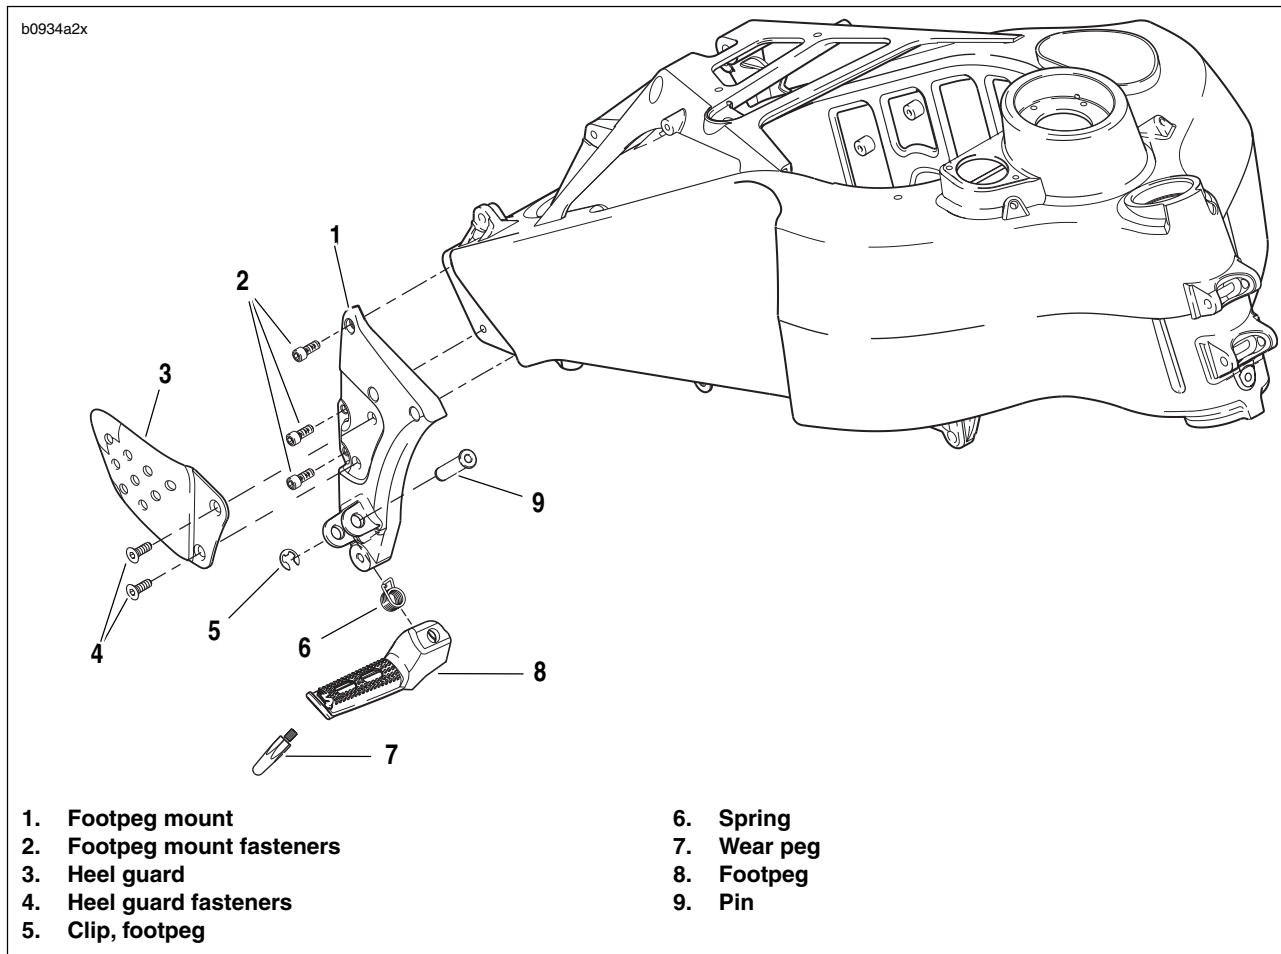

Figure 2-112. Rider Footpeg, Mount and Heel Guard Assembly
1. See Figure 2-112. Remove wear peg from end of footpeg assembly.
1. See Figure 2-112. Remove clip (5).
2. Remove footpeg pin (9).
3. Remove footpeg (8).
1. See Figure 2-112. Remove heel guard fasteners (4).
2. Remove heel guard (3).
1. See Figure 2-112. Remove footpeg mount fasteners (2).
2. Remove footpeg mount (1).
1. See Figure 2-112. Position footpeg mount (1).
2. Install footpeg mount with fasteners (2). Tighten to 108-132 **in-lbs** (12-15 Nm).
1. See Figure 2-112. Position heel guard (3) onto footpeg mount (1).
1. See Figure 2-112. Install clip (5).
2. Position footpeg (8) on to footpeg mount (1).
3. Install footpeg pin (9).
1. See Figure 2-112. Apply Loctite 272 (Red) and tighten to 36-48 **in-lbs** (4.1-5.4 Nm).